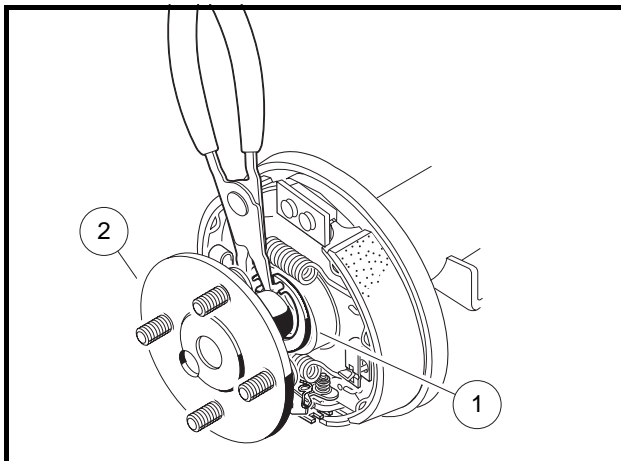

Figure 6-3 Remove Axle Retaining Ring
- 8.1. Using 90° snap ring pliers (CCI P/N 1012560), remove the axle retaining ring (1) (**Figure 6-3, Page 6-2**).
- 8.2. Pull the axle shaft (2) from the axle tube (**Figure 6-3, Page 6-2**).
- 7.2. Using 90° internal snap ring pliers (0.090 tip) (CCI P/N 1012560), attach the internal retaining ring into the axle tube hub so that it seats against the axle bearing assembly and into the machined slot in the inside wall of the axle tube hub (**Figure 6-3, Page 6-2**).
- 7.1. Using 90° snap ring pliers (CCI P/N 1012560), remove the axle retaining ring (1) (**Figure 6-3, Page 6-2**).
- 7.2. Pull the axle shaft (2) from the axle tube (**Figure 6-3, Page 6-2**).